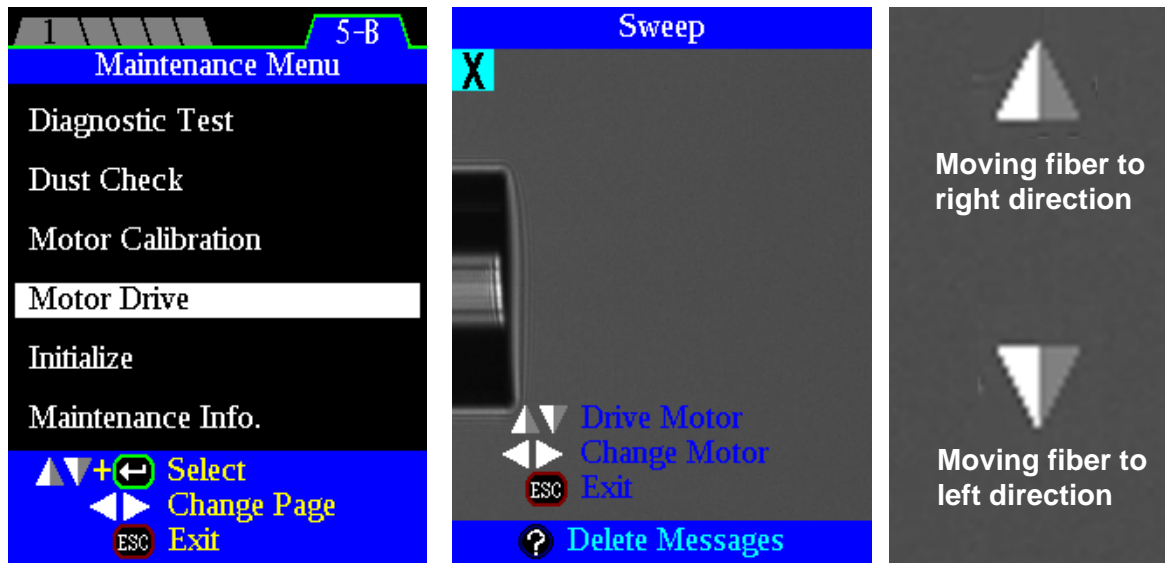

Figure 7.6. Manually set sweep motor initial position for tapering in **SWP&ZR** without PC connection. The left fiber strip length is 9 mm.
2. Move the Sweep motor manually to right until the fiber end can be seen as illustrated in Fig. 7.6